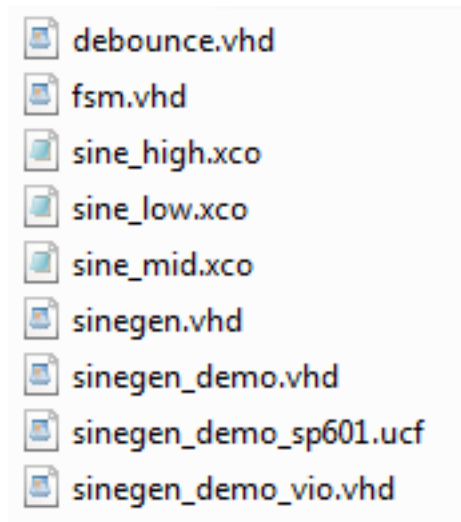

Figure 2: Tutorial Design File Set
4. When unzipped, look in ChipScope_PlanAhead/src for the files and folder shown in Figure 2.